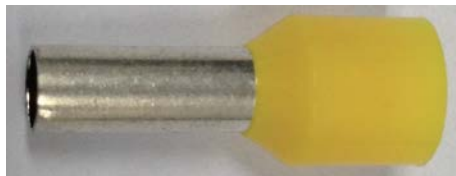

Figure 4-2 Terminal for wire crimping
- Please choose the terminals as shown in **figure 4-2** for wires crimping.